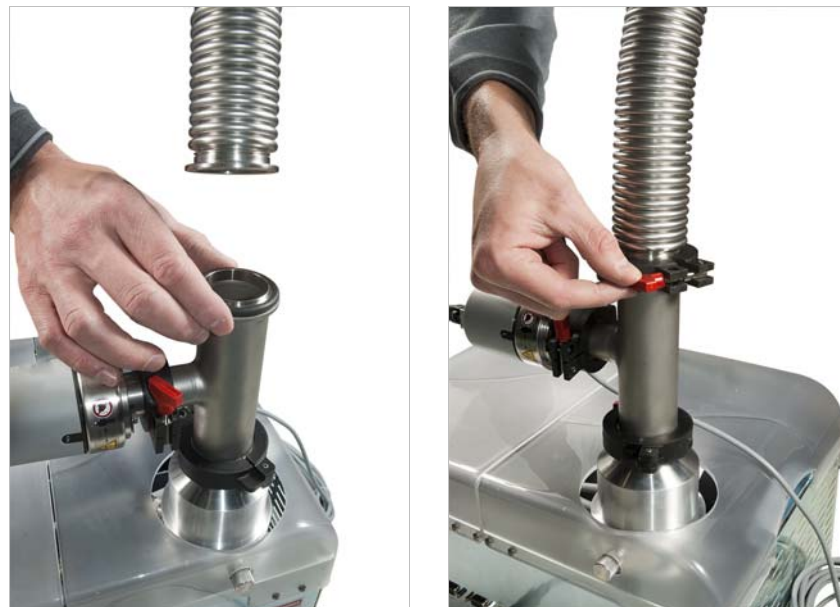

FIGURE 3-25 Install the vacuum line to the pump
- a. Remove the protective cap from the fitting shown in FIGURE 3-25.
- b. Place an NW 40 centering ring on the top NW 40 port of the T (FIGURE 3-25).
- c. Holding an NW 40 centering ring in place, set the vacuum line against the centering ring (FIGURE 3-25).
- e. Finger tighten the clamp with the screw (FIGURE 3-25).